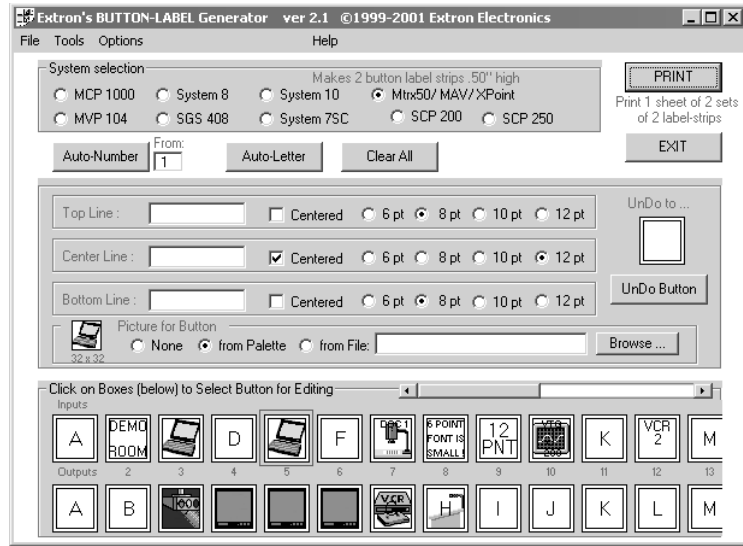

Figure 5-3 — Extron's Button-Label Generator window
2. The Extron's Button-Label Generator window appears (figure 5-3). Under System selection, choose Mtrx50/MAV/XPoint.